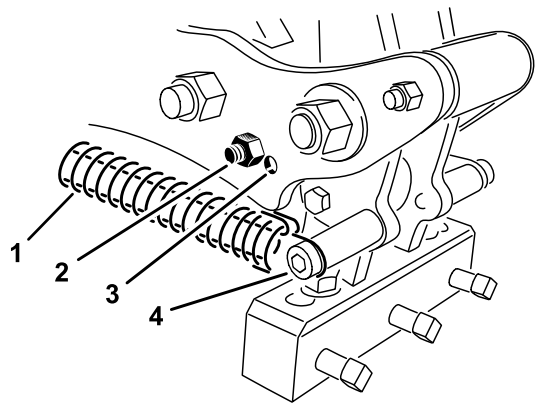

Figure 37
Set the tine angle according to the tine length by using one of the 2 adjustment holes in the linkage arm. These holes are presets only. When using 17.8 mm (7 inch) to 25.4 mm (10 inch) tines, position the head bumper closest to the rear of the tine head. You may need to use the other position—the hole farthest from the head (Figure 37) due to variances of soil conditions.
3. Release the spring tension to the tine head (Figure 37).
4. Remove the bumper bolt and bumper from the linkage arm and reinsert them into the other adjustment hole (Figure 37).